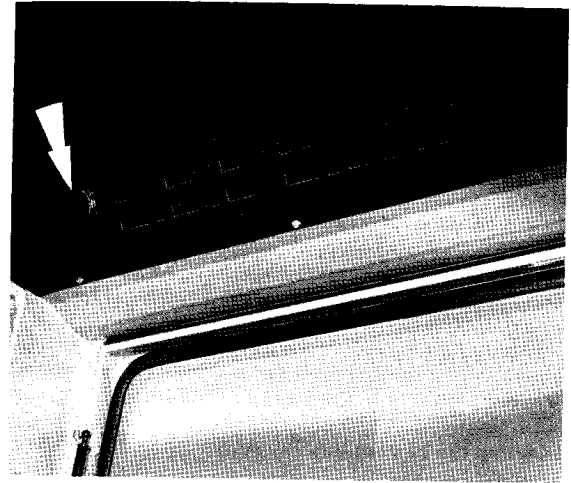

FIG. 1
1. Fig. 1. Turn the fresh air vent switch fully anticlockwise.
1. Fig. 1. Turn the fresh air vent switch fully clockwise.